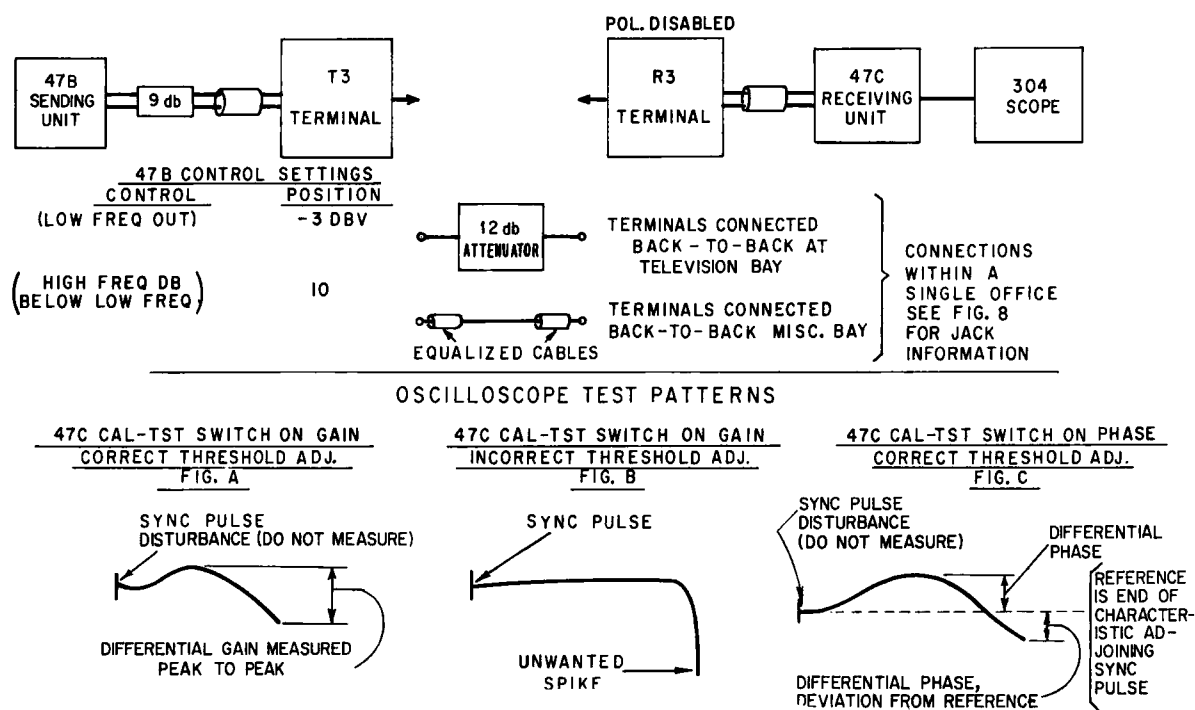

Fig. 12 - Test Arrangement for Differential Phase and Gain Test
22.02 The amount of differential phase and gain distortion at the color carrier frequency is measured by the 47A transmission measuring system. The measurements are made by connecting the L3 television terminals together at the line side on a back-to-back basis and testing from the video side as illustrated by the block diagram of Fig. 12. The modulator and demodulator signal balances must be set properly in order to measure differential phase and gain. Poor balances will result in an oscilloscope
- (1) Set up the test circuit shown in Fig. 12 with the 47B control settings as indicated.
- (2) Calibrate the 47C unit and the oscilloscope as directed in Section E47.423 — R70.785 and addendum. (The oscilloscope should be calibrated for a deflection of 10 divisions per 1 db or 5 degrees of differential distortion.)
(3) To check for correct polarity of sync pulse at the input of the T3 terminal, connect an unbalanced cord between the Y-INPUT jacks on the scope and the upper MON IN jack on the terminal. Operate the SYNC PULSE switch on the 47B to ON. If the polarity is correct, the sync pulse will appear at the bottom of the trace. If the pulse appears at the top of the trace, reverse the balanced plug at the input of the terminal. To check for correct polarity of sync pulse at the output of the R3 terminal, restore the normal test connection to the Y-INPUT of the scope. The sync disturbance due to the pulse should appear at the left end of the trace. If not, reverse the balanced plug at the REC OUT jacks of the terminal.
(4) To measure differential gain, set the CAL-TST switch on the 47C unit to the GAIN position. If the THRESHOLD CONTROL on the clipper panel is set high or is properly adjusted, the oscilloscope trace will appear as shown in Fig. A of Fig. 12. If the control is set too low, the trace will appear as in Fig. B. Differential gain is measured as the peak-to-peak vertical deviation of the scope trace, ex-
(5) To measure the differential phase in the terminals, operate the CAL-TST switch of the 47C unit to phase. The oscilloscope pattern should appear as shown in Fig. C of Fig. 12. Adjust the Y-POSITION control on the scope until the end of the trace adjacent to the sync pulse disturbance is coincident with the reference center line of the screen. Differential phase is measured as a deviation from the phase at sync pulse level, the reference just established.